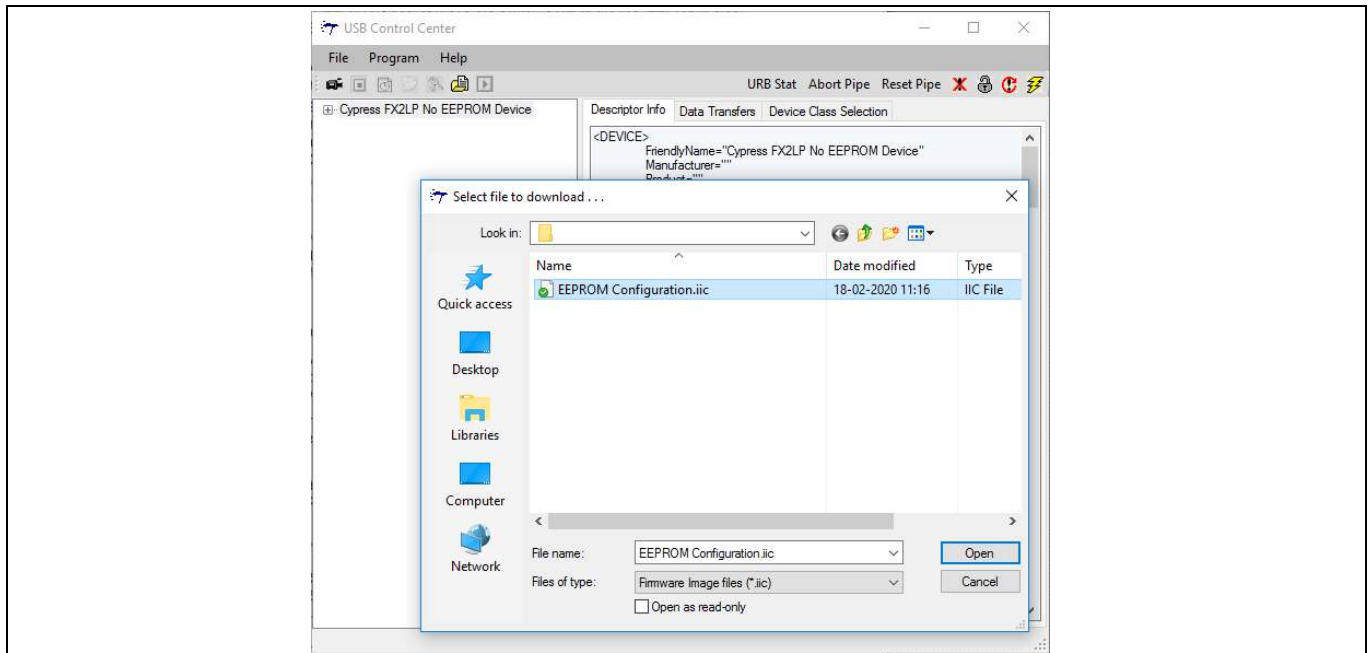

Figure 32 Selecting Firmware Image
- Choose the desired firmware code example (iic file) from the location where the code examples were unzipped and saved (section 3.2). To download this code example to the external EEPROM, click **Open** (Figure 32).